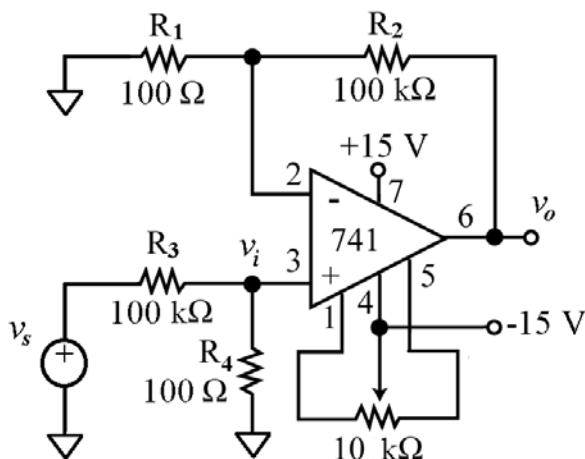

Fig. 13 – Test circuit to investigate the *frequency response*.
We now investigate the *frequency response* using the circuit of Fig. 13. Here, the op amp is configured to amplify the input v_i with the gain $A_{CL0} = 1/\beta = 1 + R_2/R_1 \cong 1000$ V/V. (Before assembling the circuit, you may want to measure R_1 and R_2 to find the actual value of β .) To prevent v_o from saturating, we must keep v_i suitably small, so we obtain it from the waveform generator v_s via a voltage divider such that $v_i = v_s R_4 / (R_3 + R_4) \cong v_s / 1000$. Moreover, since we have a new set of resistance values, the error term within brackets in Eq. (14) will also change, mandating that you *again offset null* your amplifier as in Step M8.
MC14: With power off, assemble the circuit of Fig. 13. Apply power, and null the offset as in Step M8. Next, while monitoring v_s with Ch. 1 of the oscilloscope, adjust the waveform generator so that v_s is a *sine wave* with an amplitude of 2.5 V (5-V peak-to-peak), 0-V DC, and frequency $f \sim 10$ Hz. Then, while monitoring v_o with Ch. 2 of the oscilloscope, gradually increase f while keeping the amplitude of v_s constant, until the amplitude of v_o drops to 0.707 (70.7%, or -3 dB) of its low-frequency value. Record this frequency, which is the *closed-loop bandwidth* f_B of your circuit. Finally, use Eq. (9b) to estimate f_i . How does it compare with the data sheets? Comment.
M15: In the circuit of Fig. 13 measure the amplitude V_{om} of v_o also at $f = 10f_B$ and at $f = 100f_B$, and find the corresponding values of the closed-loop gain $A_{CL} = |V_{om}/V_{im}|$, where V_{im} is the amplitude of v_i . Finally verify the *constancy* of the *GBP*, namely, $GBP = A_{CL} \times f = \text{constant}$.
M17: With power off, change R_4 to 10 k Ω in the circuit of Fig. 13, and connect a 2-k Ω *load* between the op amp output pin (pin #6) and ground. Moreover, adjust the waveform generator so that v_s is a 1-kHz sine wave with minimum amplitude and zero DC offset. Next, apply power, and while monitoring v_o with the oscilloscope, gradually increase the amplitude of v_s until v_o *clips*. Measure on the oscilloscope the *upper* and *lower saturation limits* V_{OH} and V_{OL} . Are they symmetric? Different? Justify. How do they compare with the data-sheet values?